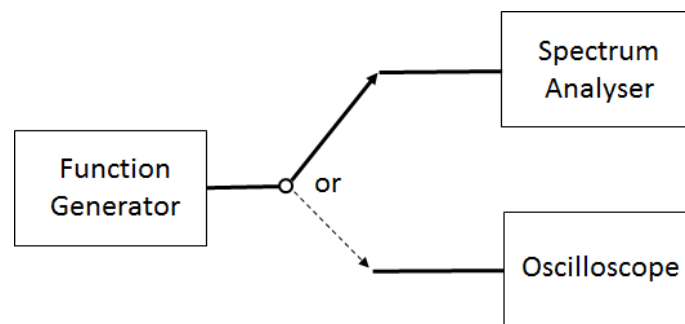

Figure E2.2 Connection diagram
1. Input a sine wave signal of 100 kHz and amplitude of 600 mVpp to the spectrum analyser through a RF cable as shown in Figure E2.2.